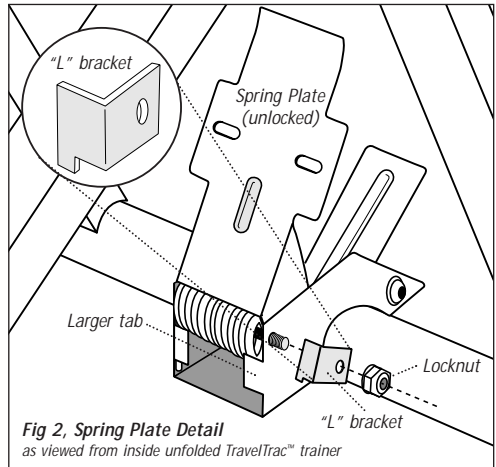

Fig 2, Spring Plate Detail
3. Remove the spring plate locknut and washer, while keeping the bolt in place (see Fig. 2).
4. Install the "L" bracket as shown in Fig. 2. The bracket's tab is designed to fit *inside* the larger tab in the spring plate assembly base.